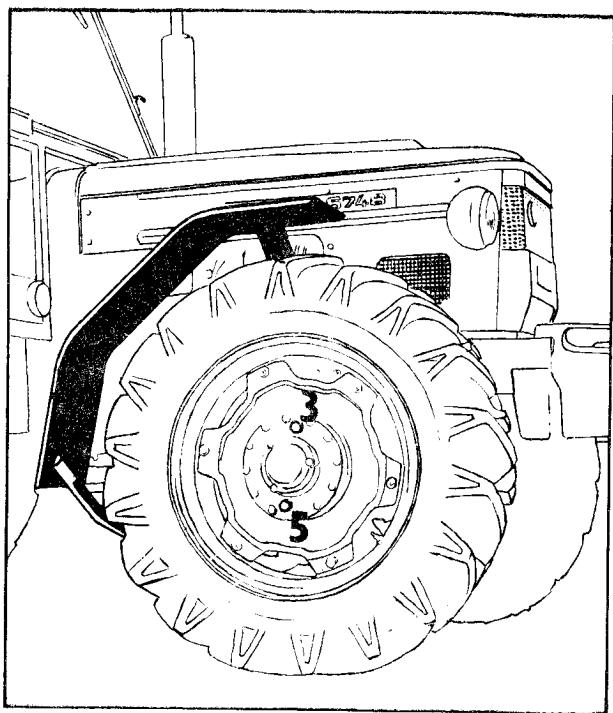

Fig. 11
21. Oil filling orifice of reducers (Fig. 11/3).
22. Oil draining orifice of reducers (Fig. 11/5).